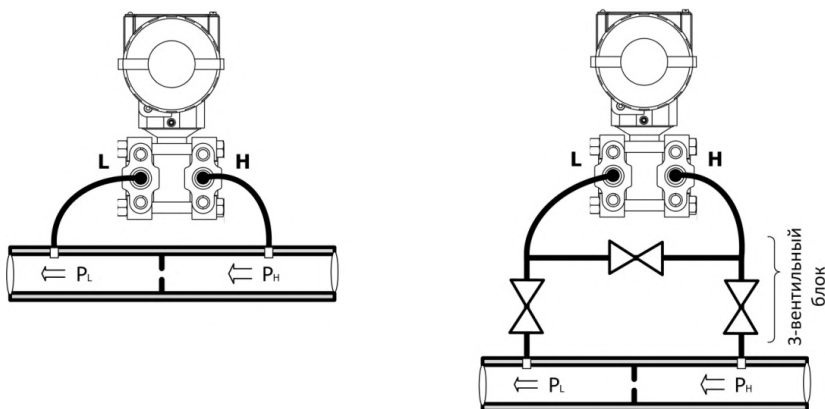

Figure 5.1. Mounting transmitter to measure pressure of liquid medium (examples).
5.1.10 The most expedient way to connect the transmitter to medium is through a triple valve block, which allows cutting off the medium and equalizing the pressure at inputs for calibration (Figure 5.1).